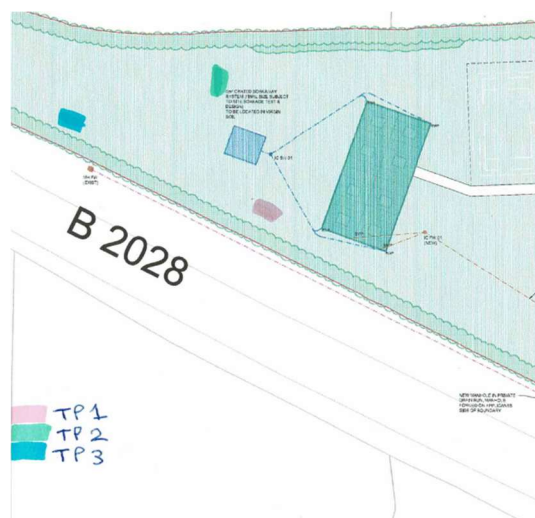

Figure 8: BRE365 soakage test locations
3.03 Soakage testing was undertaken by the client at three locations to the south (TP1, TP2 and TP3) as shown in Figure 8. The trial pits were excavated to depths of approximately 2.0 m below ground level and testing was carried out during wet weather conditions.